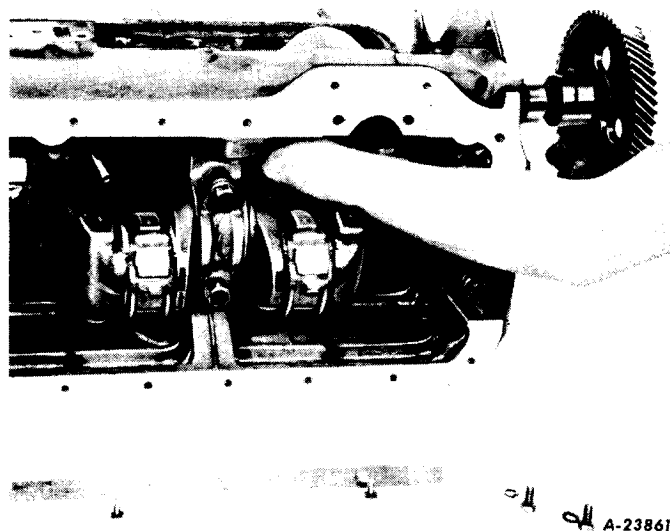

Fig. 7 - Pushing the Valve Tappets From Position (6 and 9 Series).
6. Lift out the valve tappets or push away from the camshaft (Fig. 7).